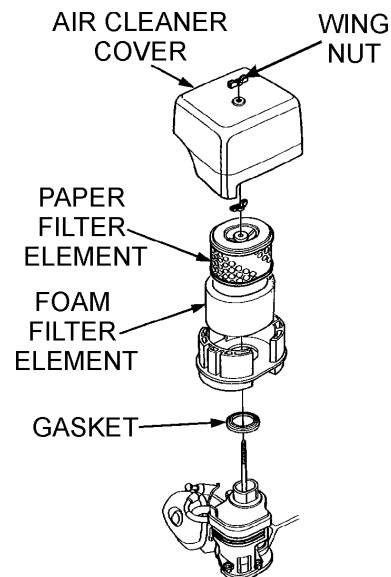

Figure 28. Engine Air Filter
1. Remove the air cleaner cover and foam filter element as shown in Figure 28.
2. Tap the paper filter element (Figure 28) several times on a hard surface to remove dirt, or blow compressed air [not exceeding 30 psi (207 kPa, 2.1 kgf/cm²)] through the filter element from the air cleaner case side. **NEVER** brush off dirt. Brushing will force dirt into the fibers. Replace the paper filter element if it is excessively dirty.